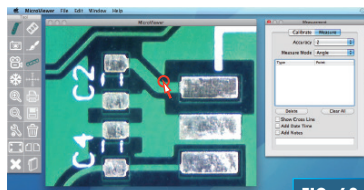

FIG. 63
3. Click and hold the mouse button at the first point of the angle. (Fig. 63)